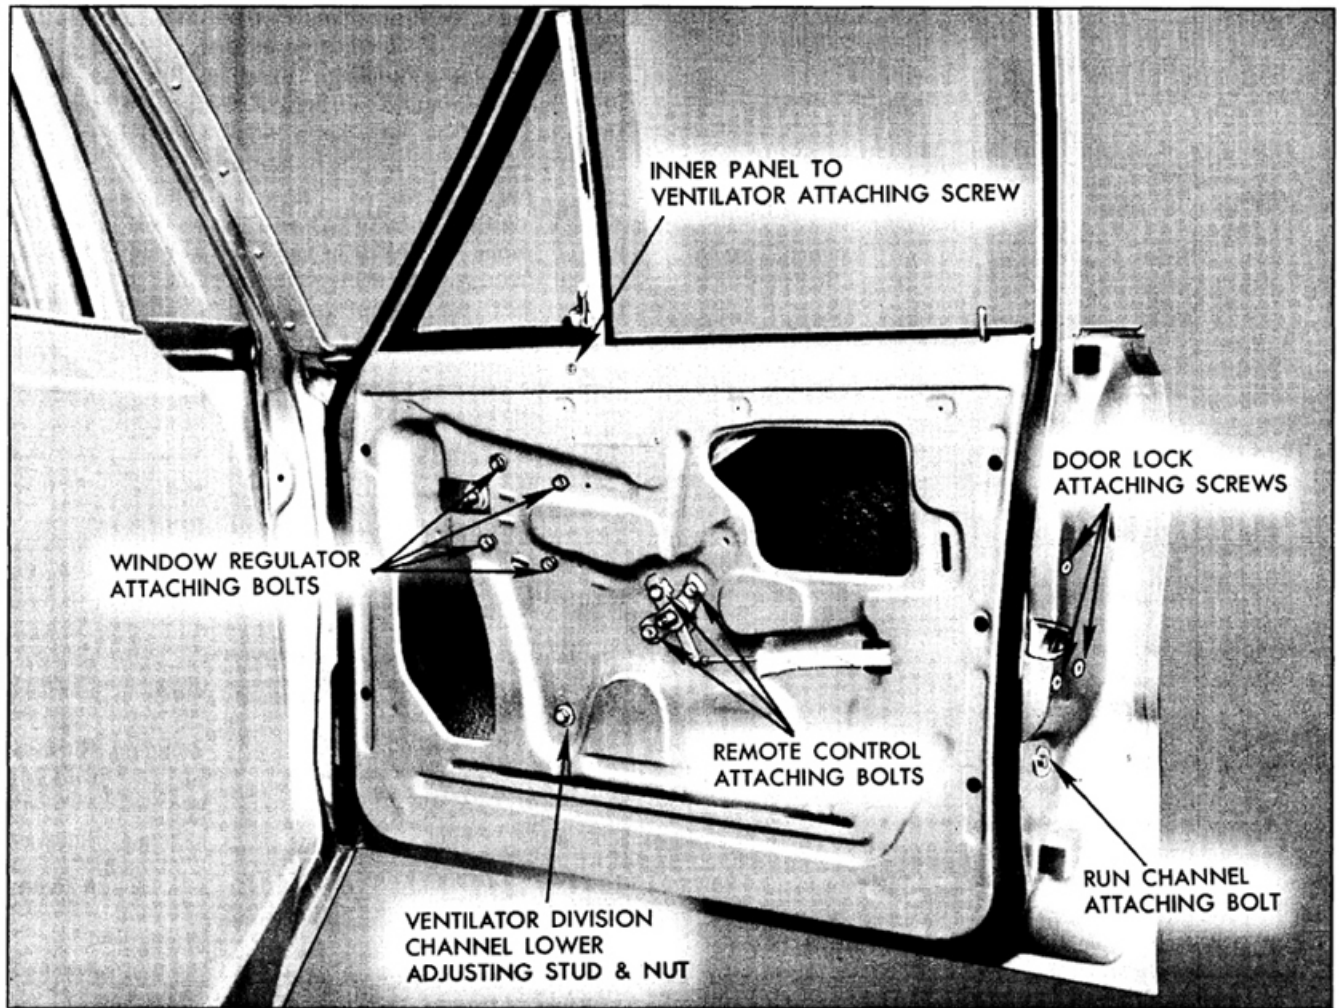

Fig. 16-343 Front Door Hardware
4. Remove remote control assembly and connecting rod from door. (Fig. 16-343)
5. Remove window regulator attaching bolts and work regulator rearward to disengage lift arm from window lower sash channel cam and remove regulator from door. (Fig. 16-343)